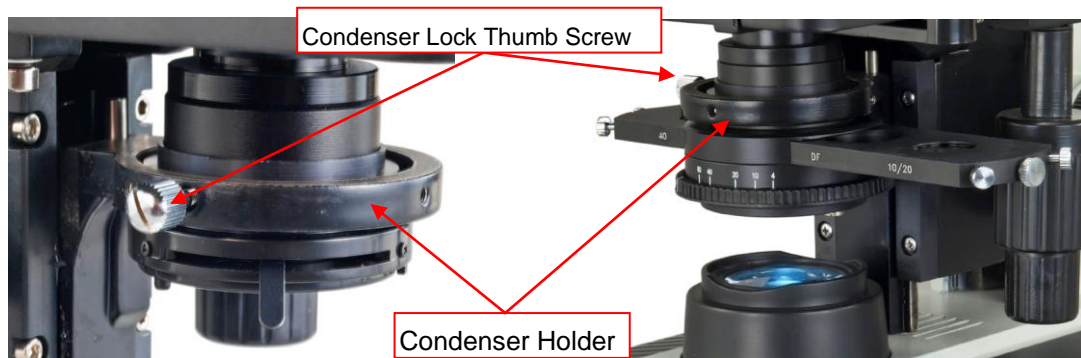

Fig.19
- Loosen the condenser lock thumb screw (**Fig. 19**), pull down the condenser and take it off.
- Insert the condenser/annular ring disk into the condenser holder, and tighten the thumb screw (**Fig. 19**).